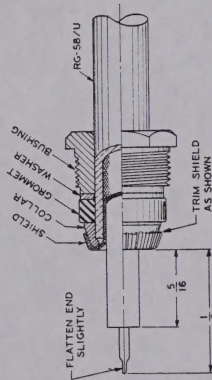

Fig. 6-2. Cable Service For Connector, Plug (D-C Plug P-101)
- Fold back the braids, and trim them as shown in Figure 6-2; remove the insulation to the dimension shown.